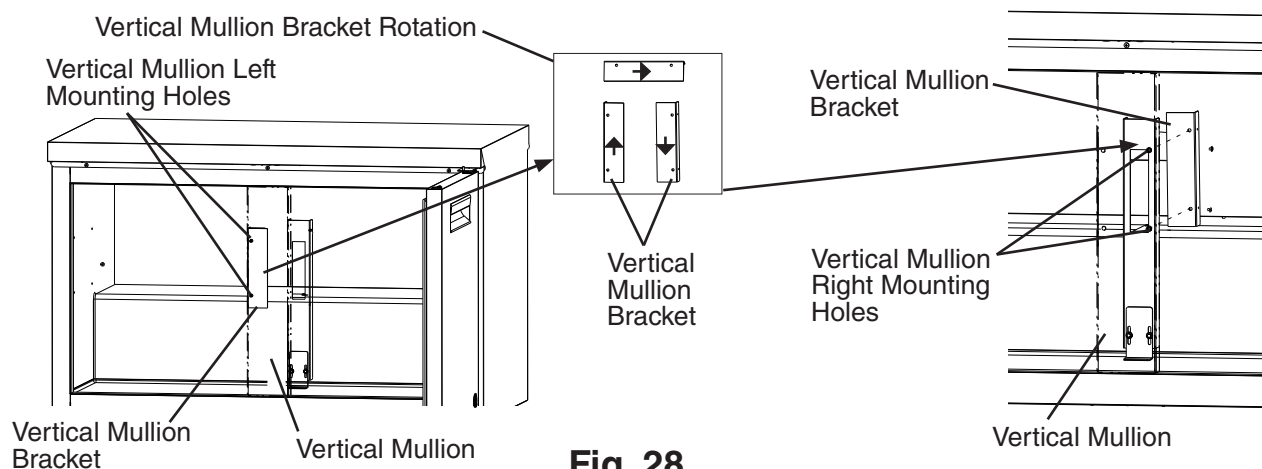

**Fig. 28**
- 7) Remove the vertical mullion bracket. Rotate 180 degrees and mount it in the vertical mullion right mounting holes. See Fig. 28.